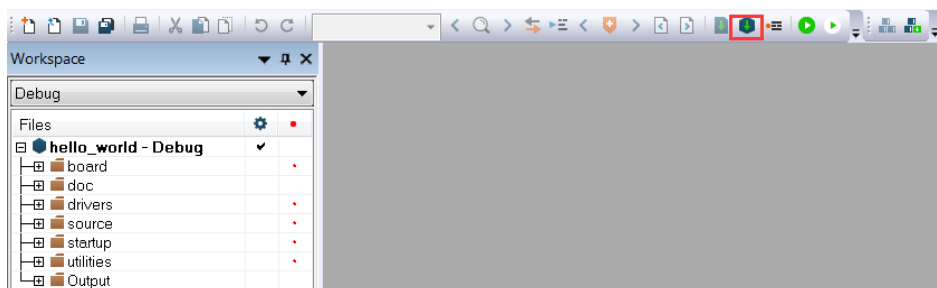

Figure 24. Build the demo application
3. To build the demo application, click **Make**, highlighted in red, as shown in Figure 24.